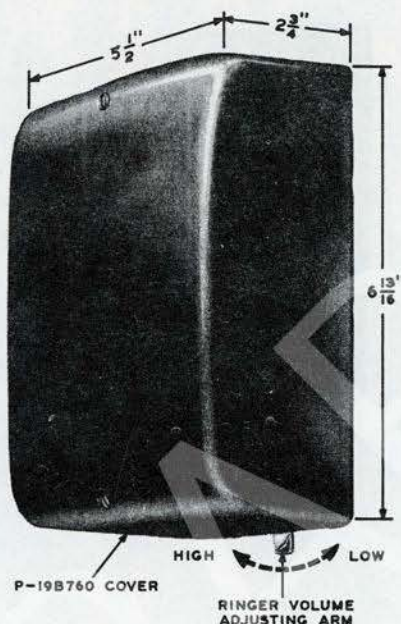

Fig. 5 - 685-, 6-, 7-, and 8-Type Subscriber Sets, External View
2.07 685 and 686 Types: These subscriber sets are network sets. They provide transmission and ringing performance equivalent to that of 500 series telephone sets when used with coin collectors; and hand telephone sets equipped with G-type handsets or equivalent (Fig. 5). Uses are as follows: